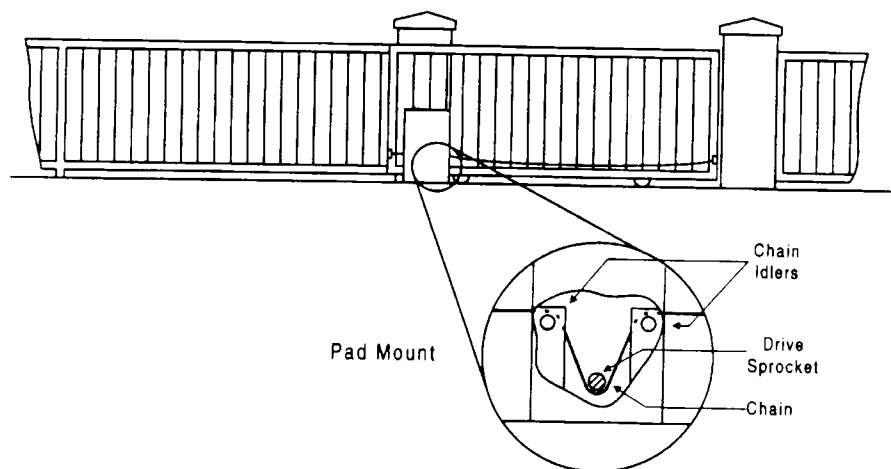

FIGURE 1.9.1C
2. Route the chain through the gate operator: over the chain guide idlers and under the drive sprocket (Figure 1.9.1C).